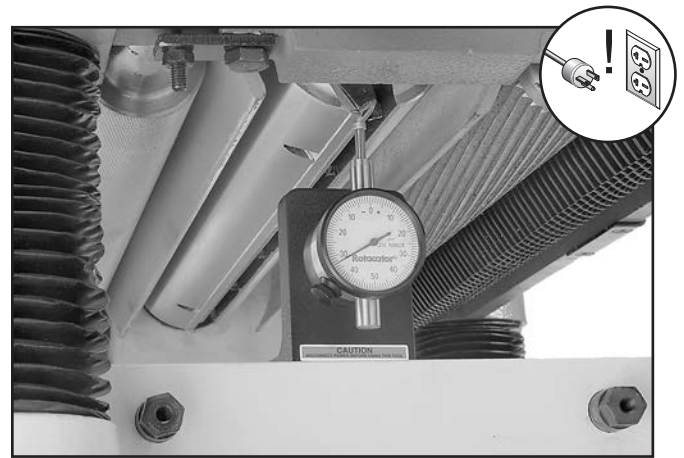

Figure 63. Example of using a Rotacator to find BDC.
5. Using your Rotacator, find bottom dead center (BDC) of any knife/insert edge by slowly rocking cutterhead pulley back and forth, then set Rotacator dial to "0" (see **Figure 63**).